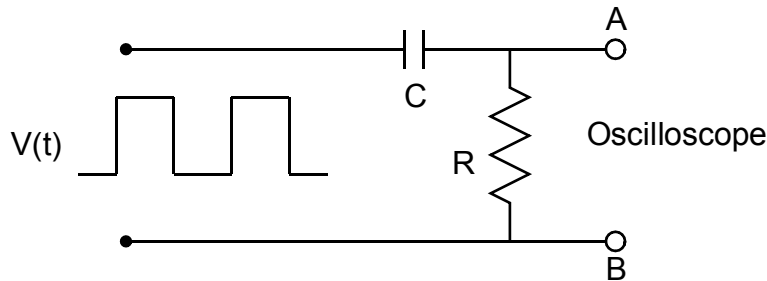

Figure 3: CR circuit with a square wave as input.
- Reverse the positions of R and C , as shown in Fig. 3.